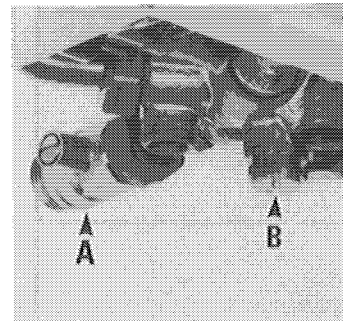

Fig. 5
- Turn off the cold water supply to the heater at the tap (A - fig. 5).
- Remove the drain plug (B - fig. 5), which also retains the water governor and spring, and drain the water into a basin.
To restart the heater replace the drain plug complete with the governor and spring and open the cold water supply tap (A - fig. 5). Check that water flows through the heater before lighting the pilot.